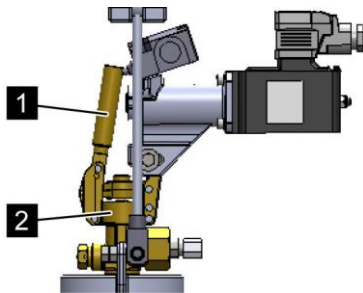

Fig. 157: Unscrewing the valve lever
11. ➤ Screw the valve lever (Fig. 157/1) onto the valve (Fig. 157/2) of the pilot cylinder again.